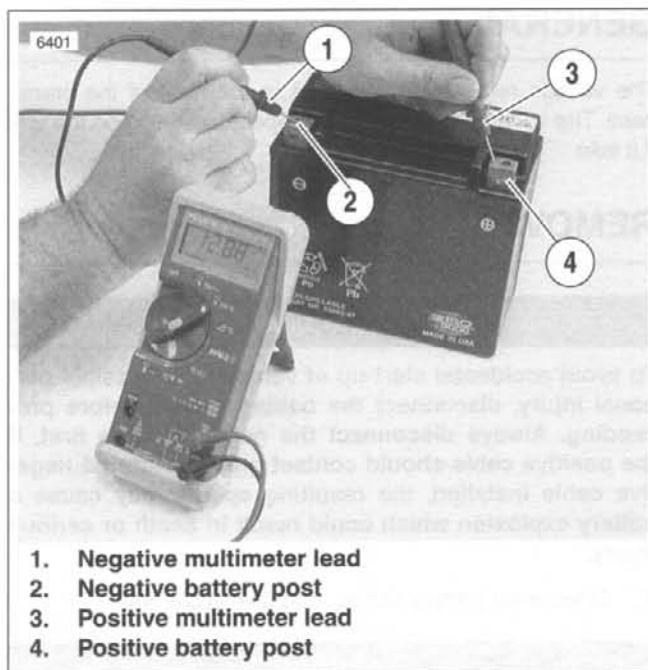

Figure 7-29. Open Circuit Voltage Test
1. See Figure 7-29. Test open circuit battery voltage using a multimeter. It is not necessary to remove battery from motorcycle for this test.
- b. Place negative multimeter lead (1) on negative battery post (2).
- c. Place positive multimeter lead (3) on positive battery post (4).